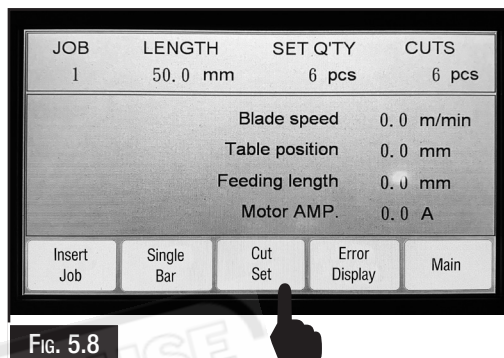

Fig. 5.8
- To enter a program, press the “Cut Set” button on the touch screen controller. The controller allows for 20 different programs to be entered. (Fig. 5.8)